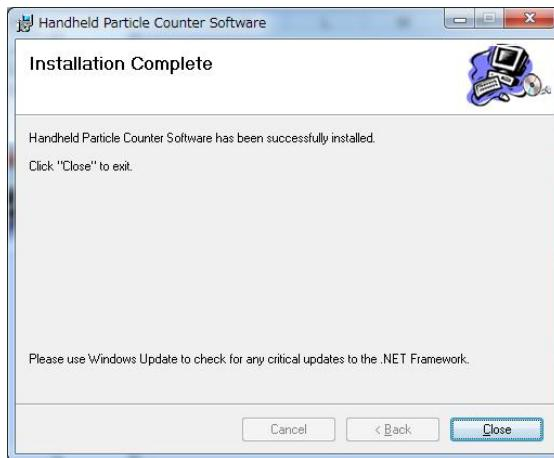

Figure 2-5
- 5) After a few seconds, the Installation Complete dialog box will appear as shown in Figure 2-5 below: